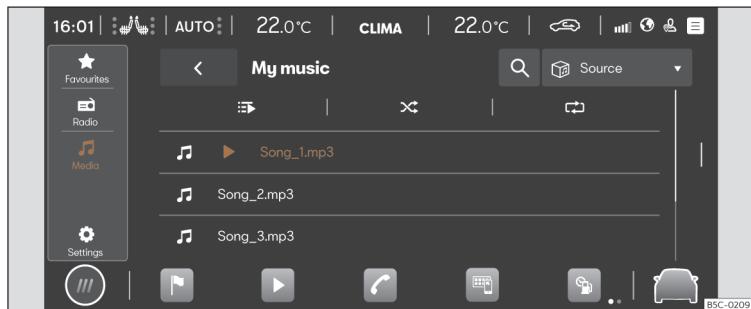

Fig. 179 Schematic diagram: Media view
- Press **HOME** > **▶** > **🎵** >>> **Fig. 179**.